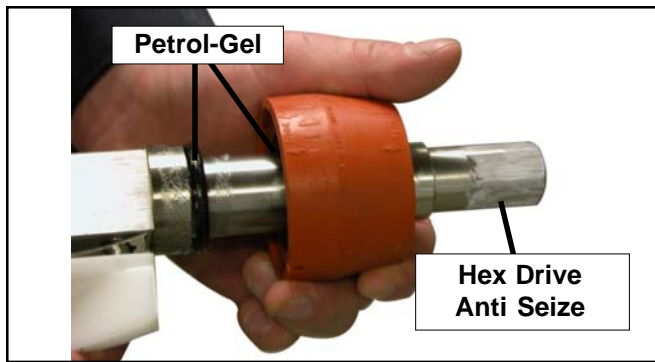

Figure 3-4 Rear Seal Assembly
- C. Install the stainless steel rear seal adapter into the rear seal dry (without lubricant). Lubricate the inside surface of the rear seal adapter and install it onto the auger shaft. **DO NOT** lubricate the outside of the rear auger seal (Fig. 3-4).